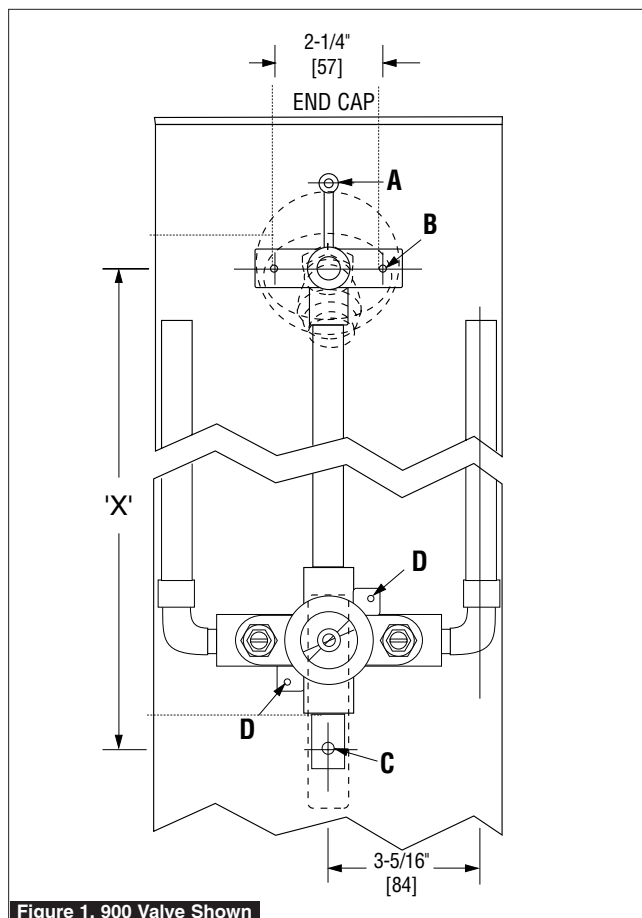

Figure 1. 900 Valve Shown
1. Mount Corner-mounting brackets to wall. To find proper distance, measure distance "X" between holes on upper and lower (B and C, *See Figures 1 & 2*) fittings of outlet pipe (for 900 valve, lower fitting is sweated on tub-side of the body).
4. Attach shrouding to piping with screw at A & D (*See Figure 1*).